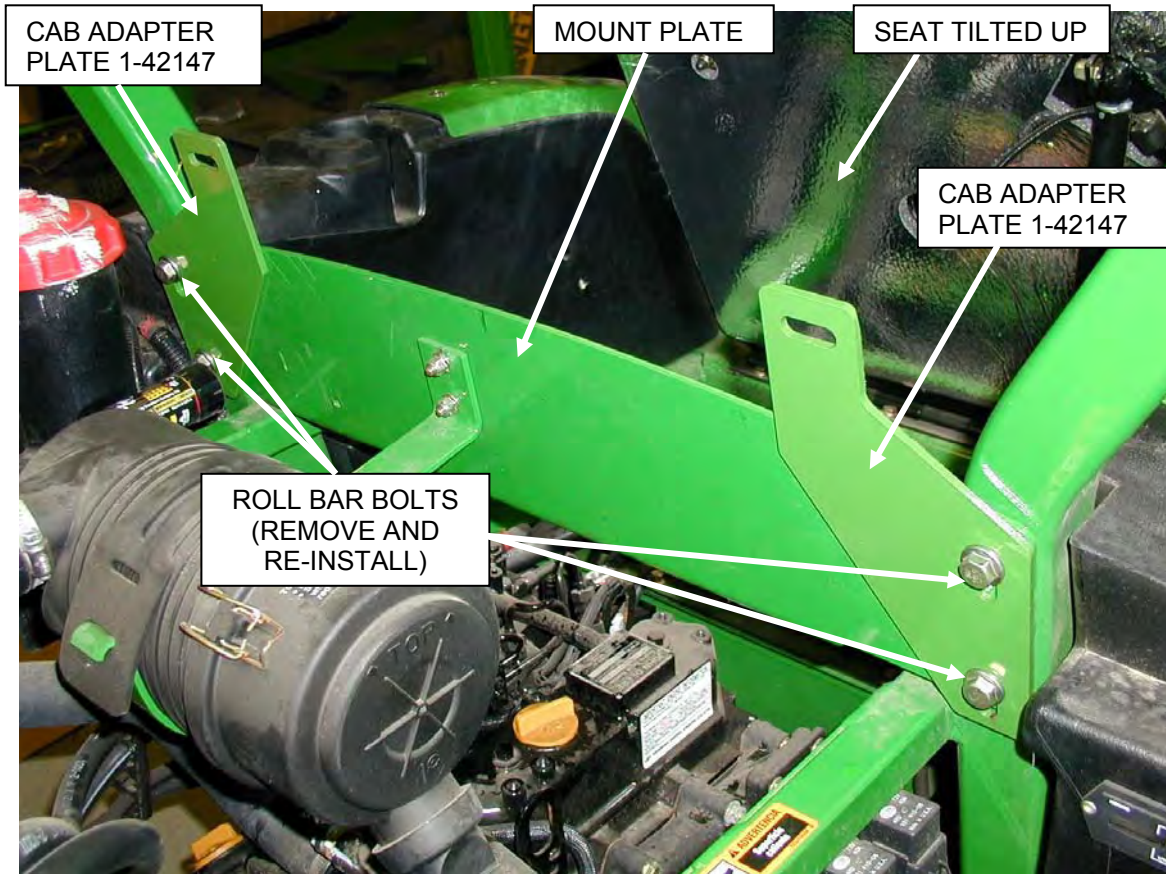

FIGURE 2-5
- 2.5) From the rear side of the tractor, there are 4 bolts that secure a mount plate to the roll bar. Doing one side at a time, remove the two bolts that mount the support plate to the roll bar. Attach the Cab Adapter Plate 1-42147 (Refer to Mount kit Drawing 4-14563) to the roll bar mount plate (See figure 2-5). Reinstall the same bolts with the plate in the lowest position. Repeat procedure on the other side and install the second Cab Adapter Plate.